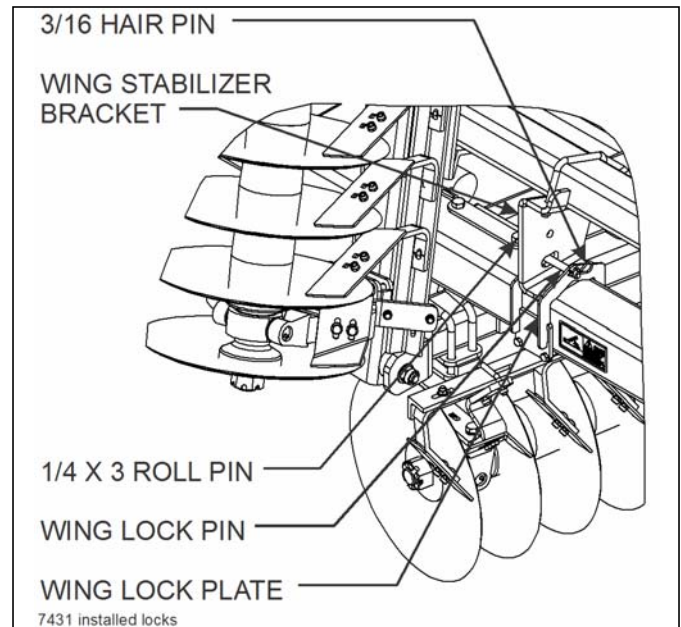

Figure 4-6: Installed Transport Locks
- To fold/unfold the VT Plus, find a level area large enough to accommodate the VT Plus when it is fully unfolded. The tractor should be stopped and not moving with the unit fully raised. Remove the wing lock pins from the mounts and install them in the storage locations (See Figures 4-6 and 4-7).
2. Remove the wing lock pins and store in the extra hole in the hinge bracket. Unfold the wings and extend the fold cylinders completely **(See Figure 4-6.)**